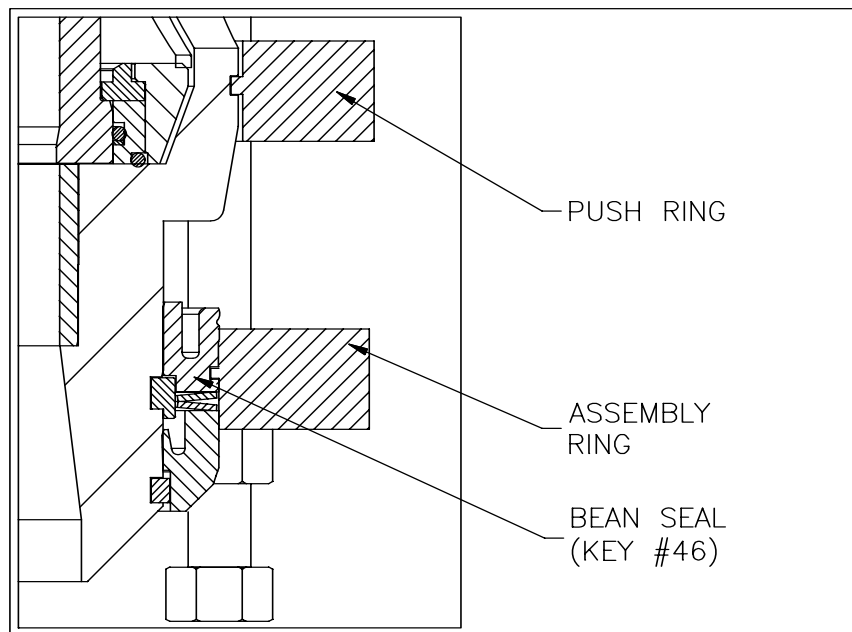

Figure 6.2: Tool Installation
Note: Do not tighten. (See Figure 6.2.)
3. Slide both segments of assembly ring (P/N: 80523) into slot in bean seal (item 46). Secure assembly ring with 5/8" – 11 x 1 ½" capscrews (P/N: 01031-031). (See Figure 6.2).
4. Thread the 4 hex nuts (P/N: 01017-002) onto the 5/8" studs (c/w welded on nut – P/N 80290). Place the studs through the untapped holes on the assembly ring and thread the studs into the push ring. Tighten the capscrews on the push ring. (See Figure 6.2).